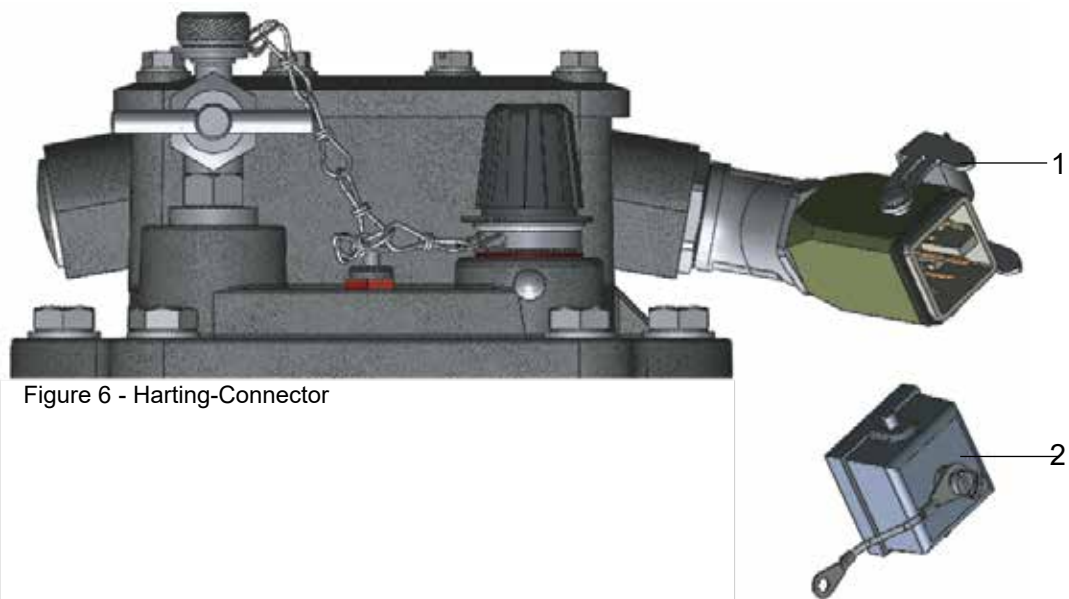

Figure 6 - Harting-Connector
- Remove the safety catch (Fig. 6/ no. 1)
- Remove the cap (Fig. 6/ no. 2)